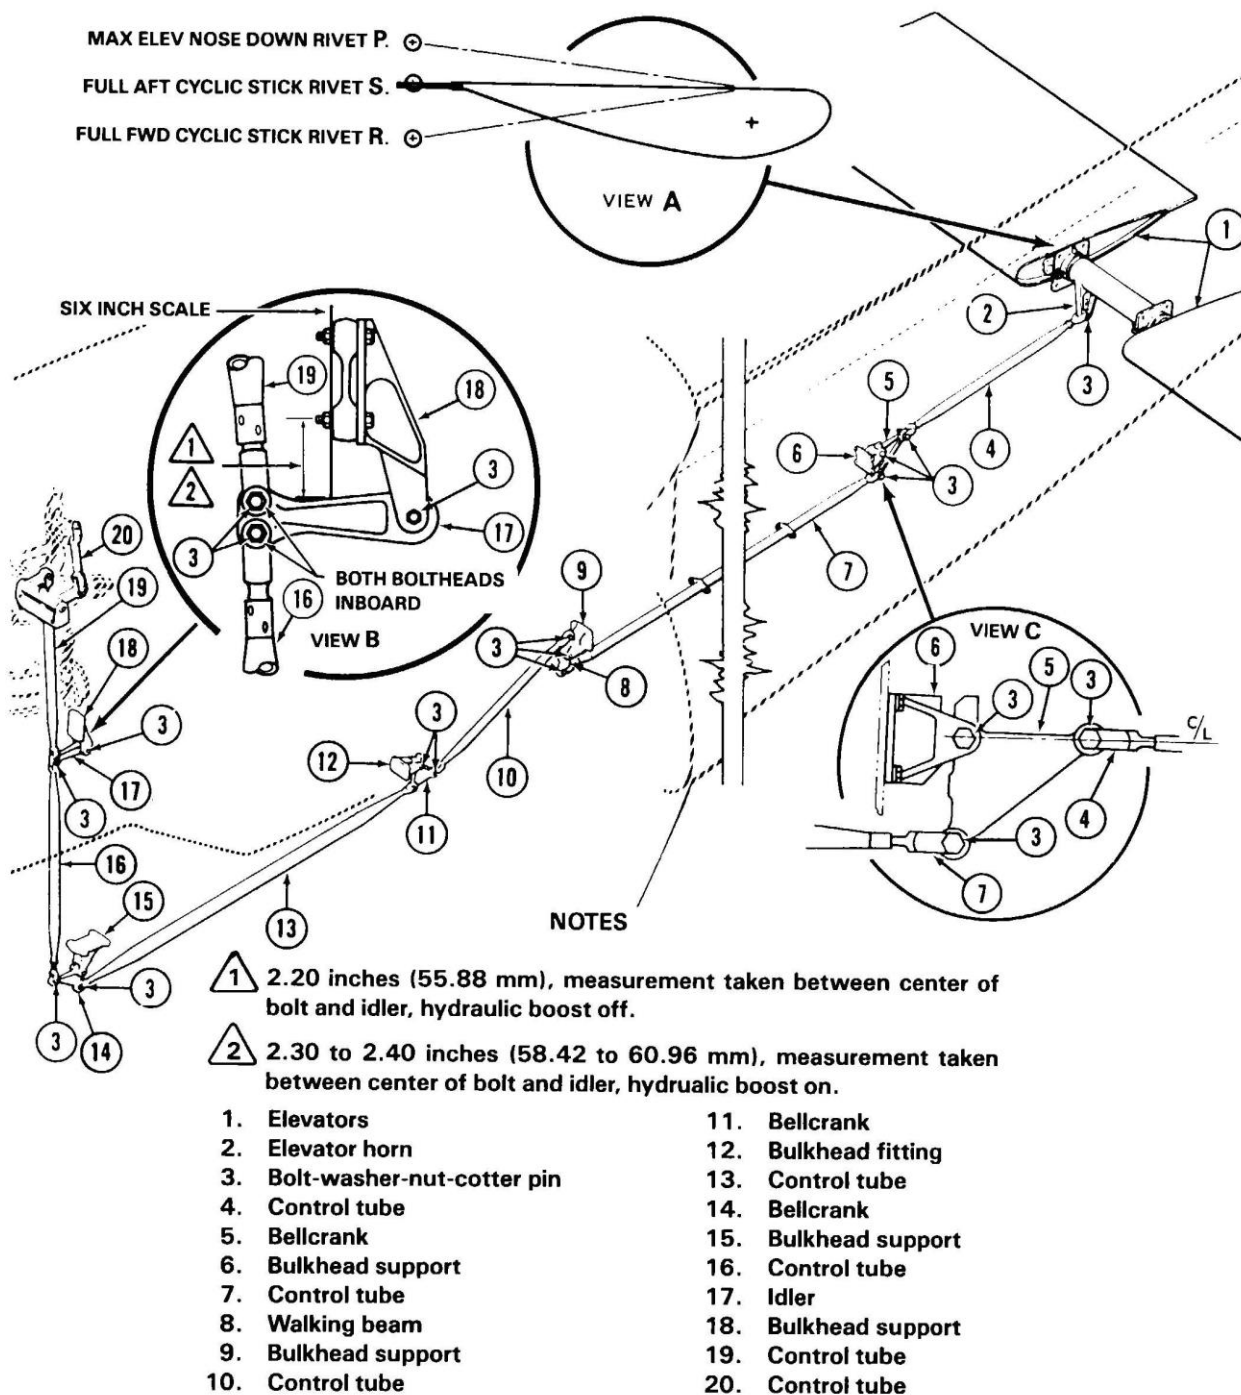

Figure 67-8. Synchronized Elevator Controls Rigging
*The following shall be accomplished after installation of all bellcranks and nonadjustable control tubes (20, 13, 7, and 10, Figure 67-8) and with swashplate in position shown on Figure 67-4.*
67.1.10.1.2 Position cyclic hydraulic cylinder control valves to top of travel. Adjust and connect tube (19, Figure 67-8) to obtain dimension of 2.20 in. (55.88) from top surface of idler (17) to centerline of lower bolts in idler support (view B).
67.1.10.2.3 Position idler (17, Figure 67-8, view B) to 2.30 to 2.40 in. (58.42 to 60.96 mm) dimension as shown. Adjust control tube (19) to fit and install.